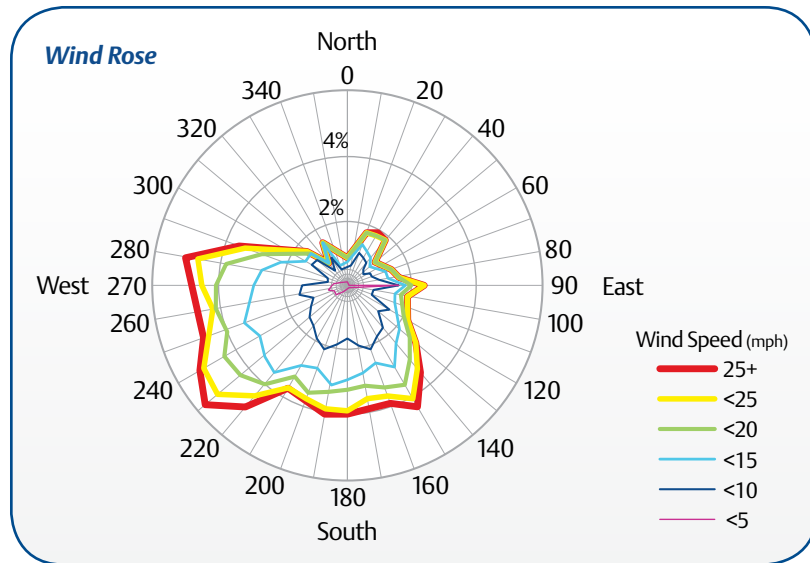

Figure 2. Wind Rose
**Wind Rose and Compass:** If wind energy is considered in any region-locale, a Wind Rose and Compass [Figure 2] should be used by the planners to help select sites that are free and clear of obstructions. Wind Roses come in different formats and presentations, but what the planner must know is the direction and associated strength of winds in all directions.